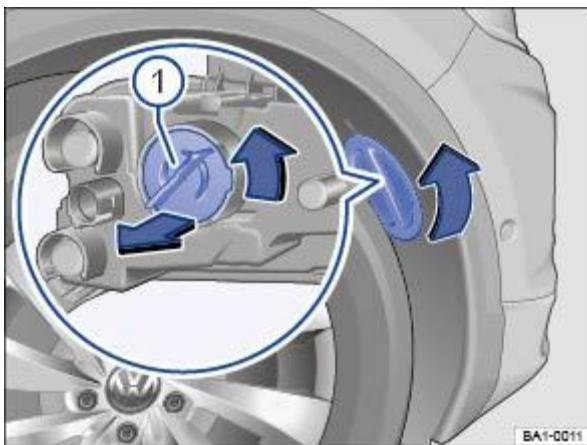

Fig. 168 In the front right wheel housing liner: changing a turn signal bulb.
- ① Observe and follow the instructions in the checklist ⇒ Checklist Information on changing bulbs .
- ② Turn the steering so that the wheel on the affected side of the vehicle is pointing to the middle of the vehicle. If necessary, start the engine to do this. Then stop the engine again and remove the vehicle key from the ignition lock.
- ③ Turn the cover in the wheel housing liner in the direction of the arrow and remove it ⇒ Fig. 168 .
- ④ Release the connector ⇒ Fig. 168 ① and detach it.
- ⑤ Turn the bulb holder ⇒ Fig. 168 ② anti-clockwise (arrow) as far as it will go and pull it out to the rear along with the bulb.
- ⑥ Replace the defective bulb with a new bulb of the same type.
- ⑦ Insert the bulb holder into the headlight and turn it clockwise as far as it will go.
⑧ Fit the connector ⇒ Fig. 168 ① on the bulb holder ⇒ Fig. 168 ②. The connector should click into place.
⑨ Fit the cover in the wheel housing liner ⇒ Fig. 168 and lock it in position.